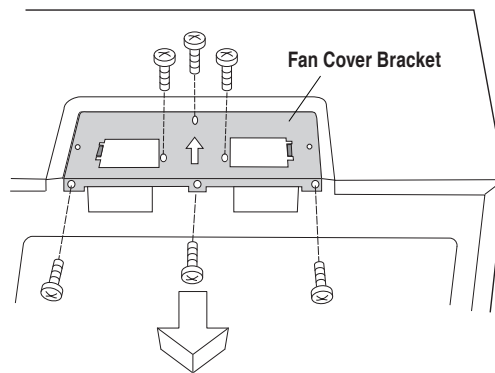

Figure 7
1. Remove 3 screws from back edge and 3 screws from the top center of Fan Cover Bracket. Save 3 screws to be used later and discard remaining 3. Remove Fan Cover Bracket by sliding it in the opposite direction of the arrow on the Fan Cover Bracket, as shown in Figure 7.